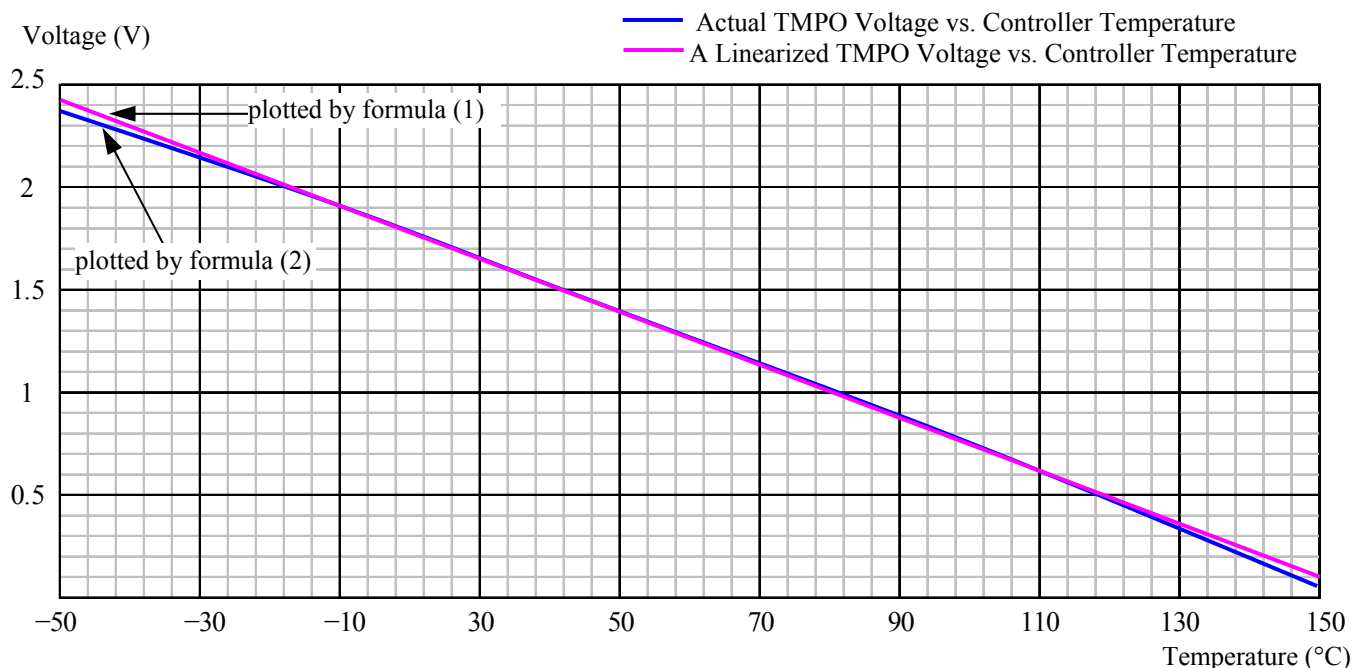

Figure 16. Controller Internal Temp vs. TMPO Voltage
Within the most commonly used temperature range of between  $0^\circ C$  to  $100^\circ C$ , the maximum error occurs at about 1.5V, at which the temperature error between the calculated data by using the formula (1) and the approximated data obtained by using the linear equation (2) is about  $0.4^\circ C$ , with the linear data being a little lower. The curves of the 2 sets of the data are plotted in Figure 16.